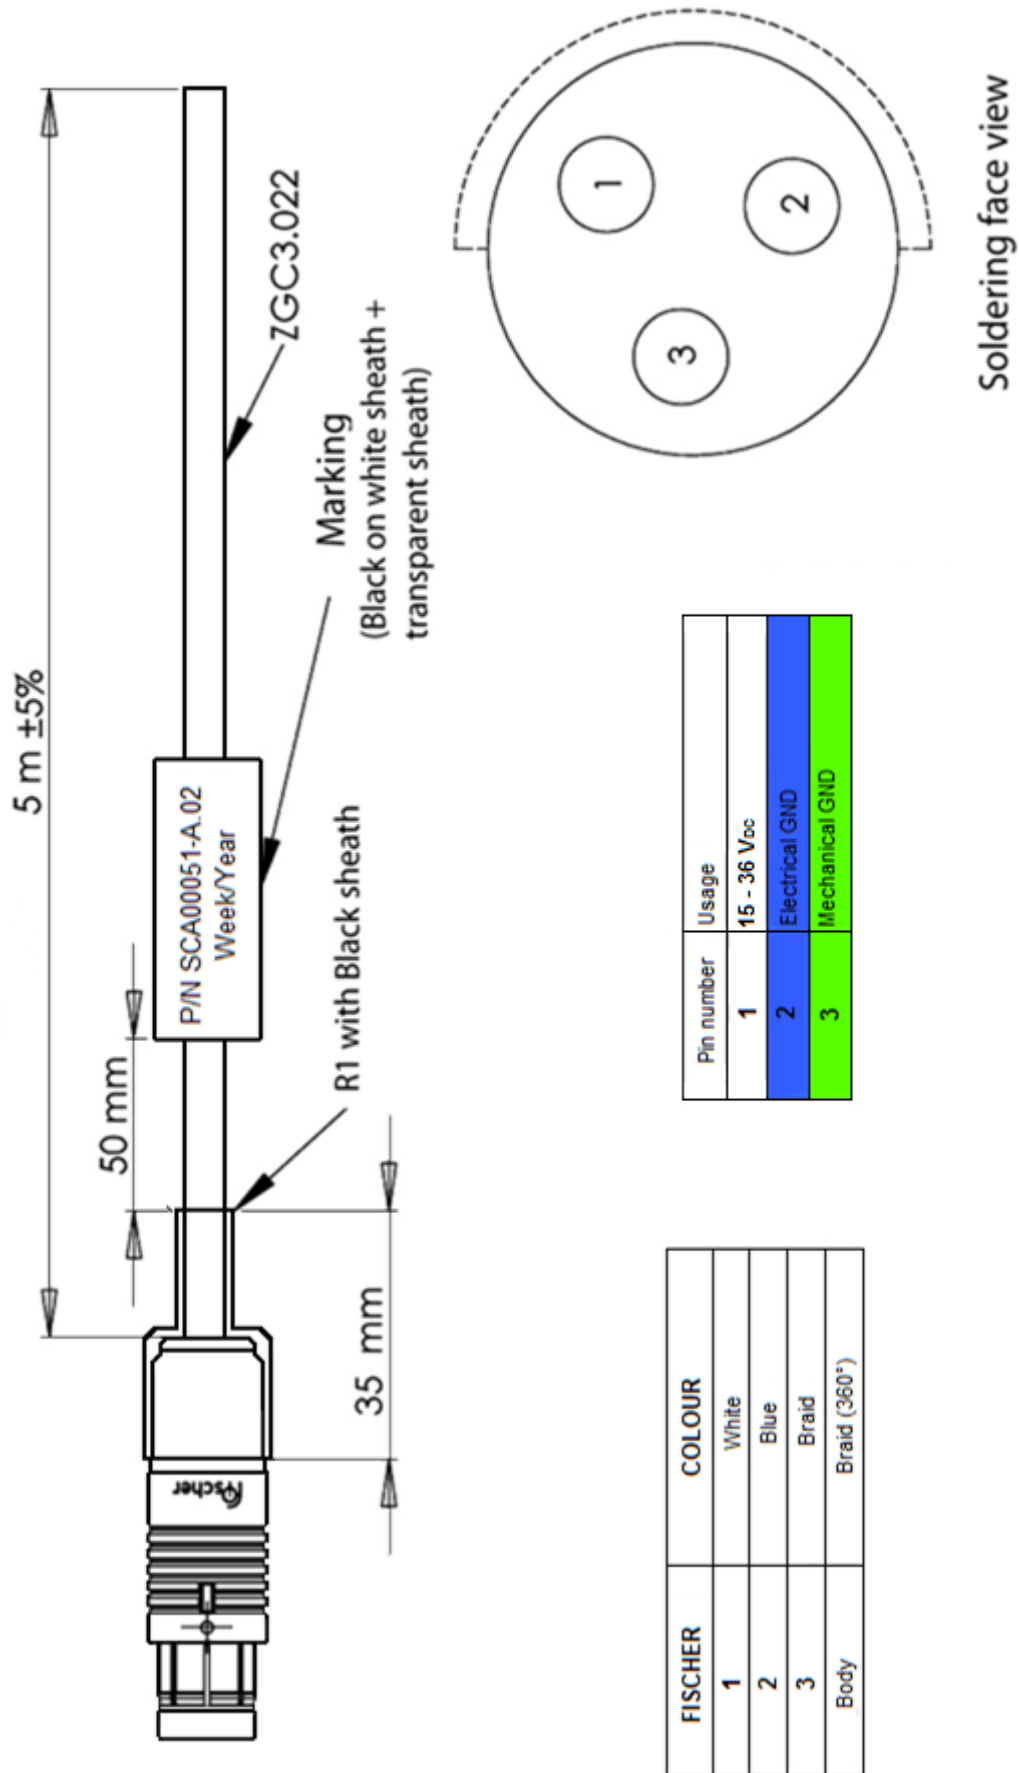

Figure 4 - QUADRANS power supply pigtail presentation
- An optional 5-meter long power supply pigtail can be ordered from iXBlue to connect QUADRANS to an existing 24 VDC power supply (see Figure 4). Alternatively, the bare plug, ref. Fischer S103Z052 can be ordered directly from Fischer. The reference of the recommended cable clamp set is FISCHER E31 103,2/5,7+B.